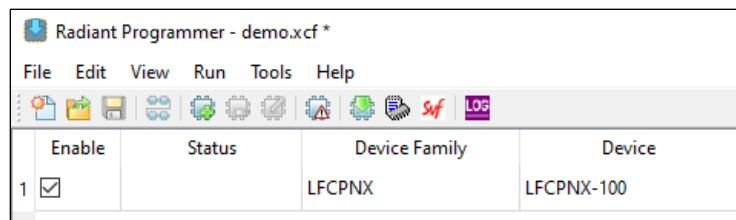

Figure 6.16. Device Status
4. Make sure the Nexus device is detected in the Programmer, as shown in Figure 6.16.